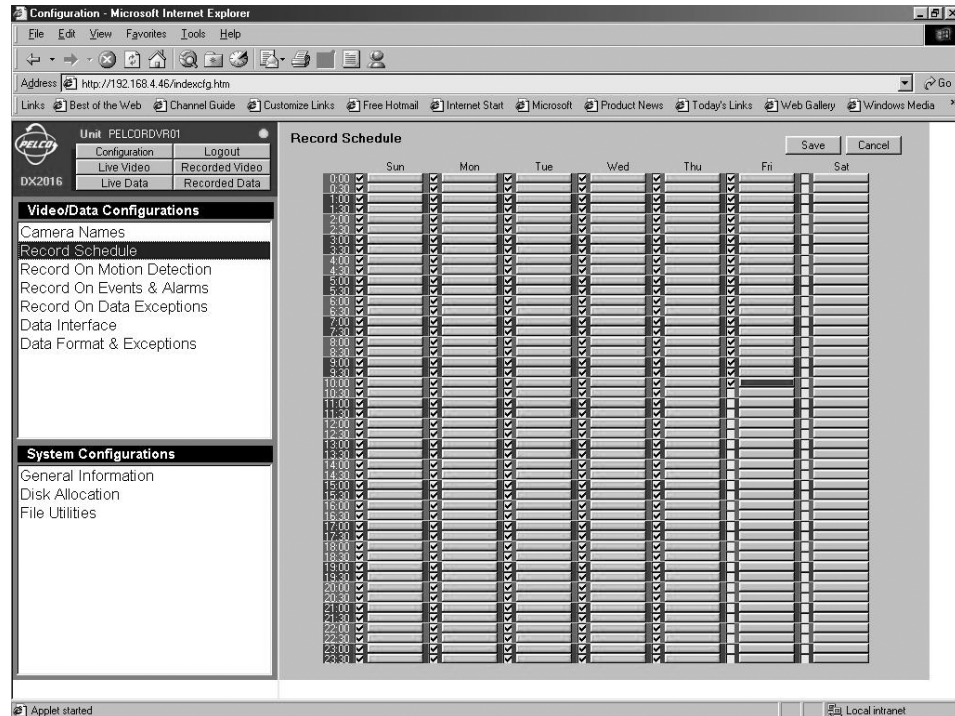

Figure 12. Record Schedule Screen
1. Click the **Configuration** button. Click **Record Schedule**. The screen (refer to Figure 12) that appears displays seven days, each broken into half-hour segments.